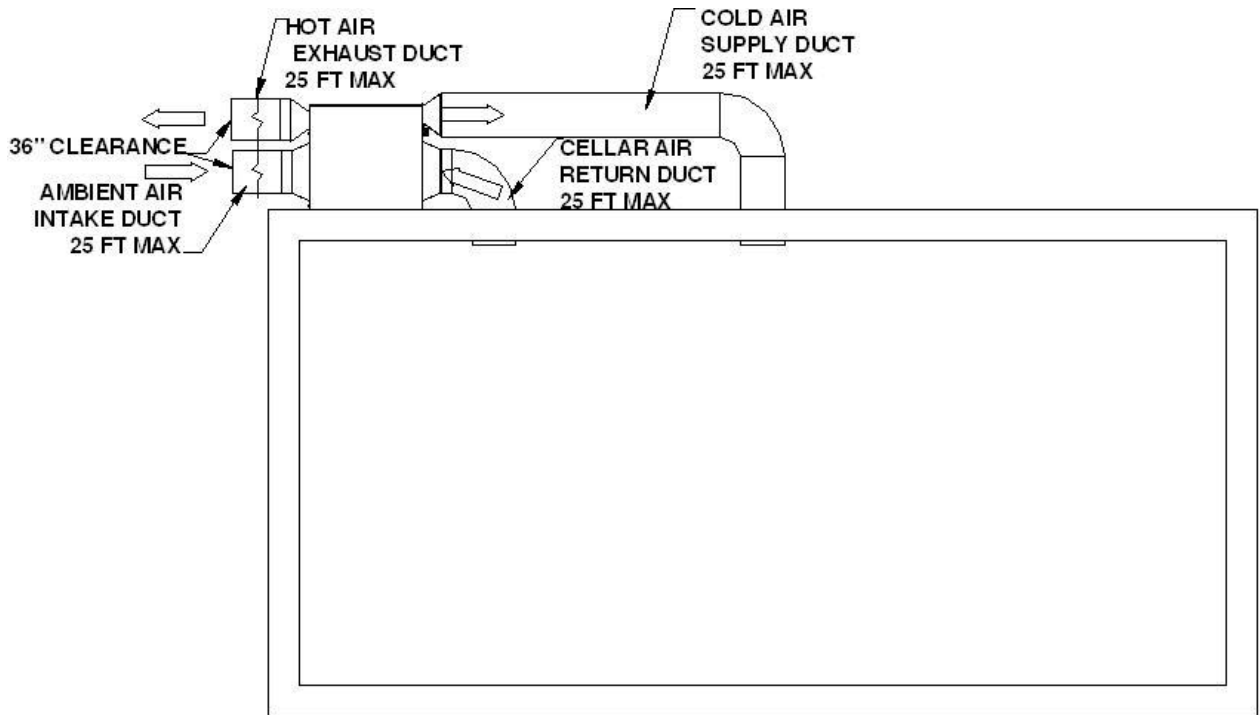

Fig. 4.6 Cold-air supply, cellar-air return, hot-air exhaust and ambient-air intake ducts
4. WM-4510 remote-mount with cold-air supply, cellar-air return, hot-air exhaust and ambient-air intake ducts (Fig. 4.6 & 4.7)